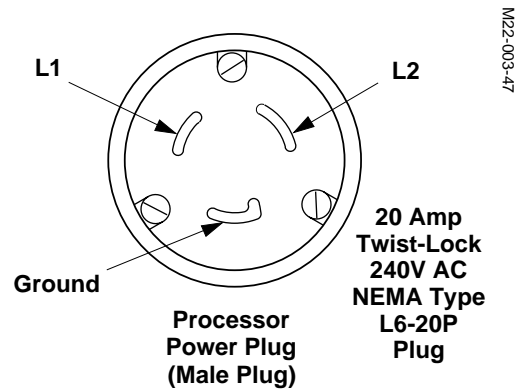

Figure 2-53. AC Power Connector
3. Make sure you have the correct power cable. For use in Europe you should have received a power cable with pigtails on the free end. For use in the U.S., Canada, South America and Southeast Asia the power cable should have a 20 Amp Twist-Lock 240 VAC NEMA Type I6-20P plug attached as illustrated in Figure 2-53.